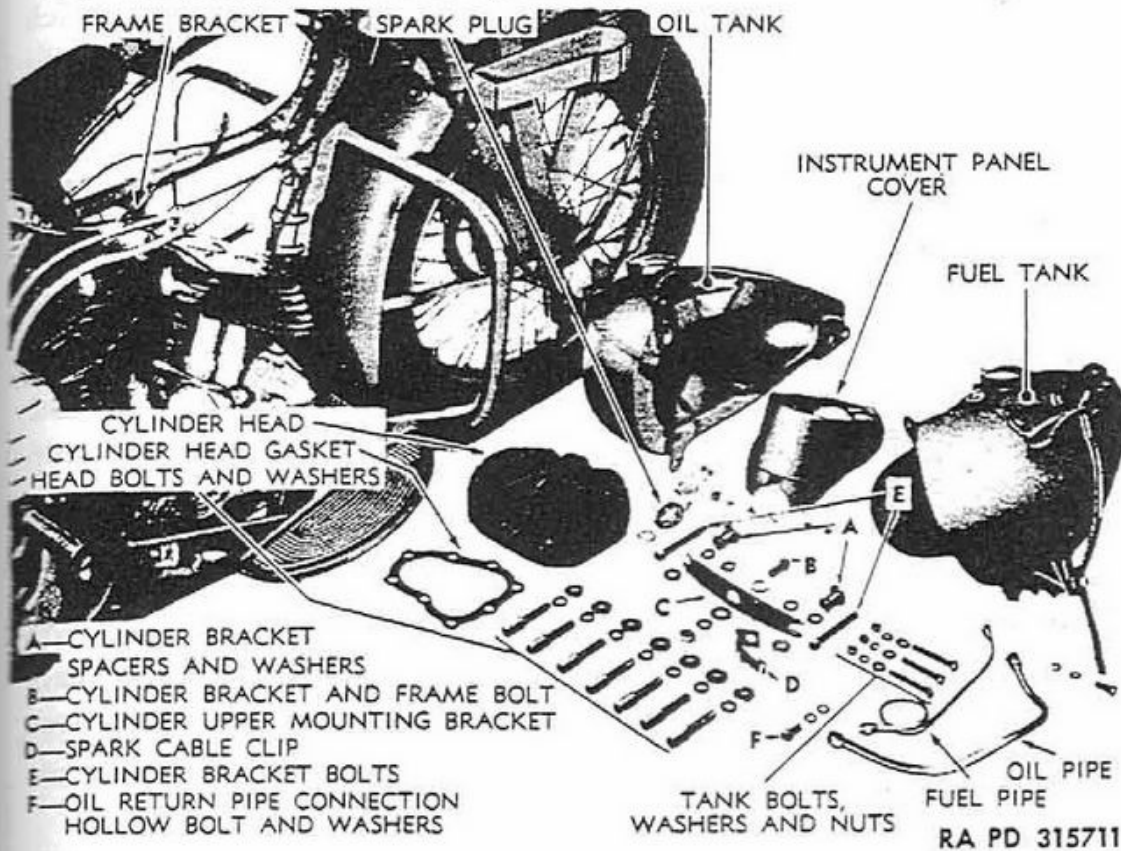

Figure 15—Disassembly for Head Gasket Replacement
41. REPLACEMENT OF HEAD GASKET (fig. 15).
a. **Removal.** Refer to figure 15, illustrating necessary parts and units to be removed to perform this operation.
- (1) Remove instrument panel cover (par. 119).
- (2) Remove gasoline tank and oil tank (par. 107).
- (3) Remove cylinder head bracket to frame lug bolt; this will free clamp which secures front spark plug cable. Pay particular attention to shim washers placed between cylinder head bracket and frame lug, as these washers must be replaced when installing cylinder head.
- (4) Remove spark plug, or plugs.
(5) Remove cylinder head bolts, using head bolt wrench 41-W-1525. NOTE: *On some 42 WLA models, plain washers (0.095-inch thick), in addition to regular (heavy) cylinder head bolt washers, were used to prevent cylinder head bolts from bottoming.*
(6) Perform carbon removal (head only). Refer to paragraph 42.
b. Installing Gasket and Head (fig. 15).
(1) Clean top of cylinder. Apply a light application of grease or oil to both sides of gasket before locating on cylinder head. Place head on cylinder.
(2) Install head bolts, using heavy washers (also 0.095-inch thick plain washers, if any were removed). If in doubt as to use of 0.095-inch thick washers in addition to regular washers, measure depth of bolt holes in cylinder head. Head having hole depth of $3\frac{1}{32}$ inch must use the 0.095-inch thick washers in addition to regular washers. Head having bolt hole depth of $1\frac{1}{16}$ inch does not require the 0.095-inch thick washers.
(3) Install cylinder frame bracket with the two long bolts, special (spool-shaped) spacers, and flat washers. The spacers go between cylinder heads and frame bracket. A flat washer goes under the head of each long cylinder bolt, above the bracket; some engines may have flat washers between the spacers and the bracket.
(4) Tighten head bolts evenly to ensure a tight cylinder head joint. Use head bolt wrench 41-W-1525, first turning down bolts just snug, then tightening each bolt $\frac{1}{8}$ to $\frac{1}{4}$ turn at a time, until all are securely tightened. If torque wrench is available, tighten head bolts to 60 foot-pounds minimum, 65 foot-pounds maximum tension when engine is cold.